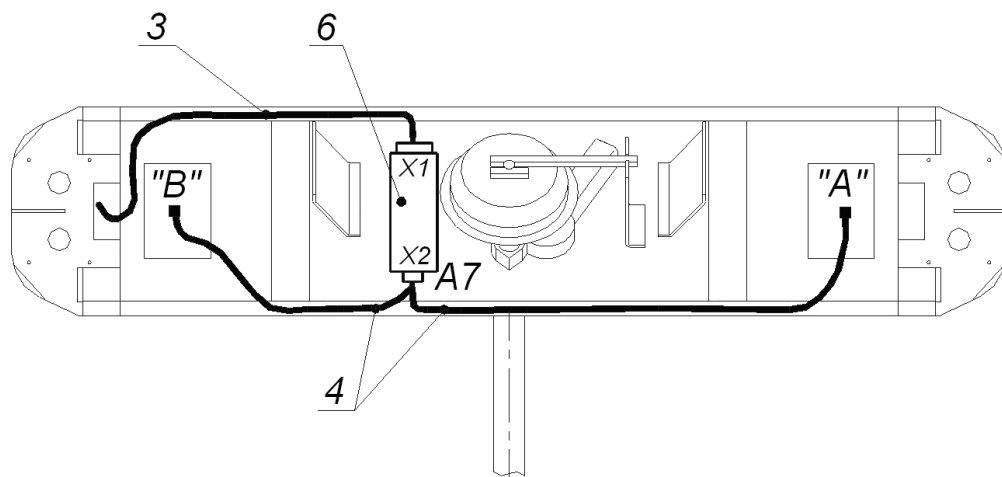

Fig.11 Cables layout inside the turnstile housing
6. The cables layout inside the turnstile housing is shown in Fig. 11.